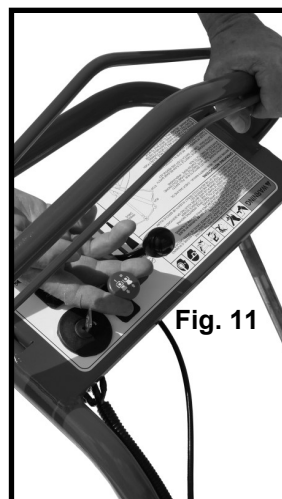

Fig. 11
**Engaging the Mower Blades:** After confirming that the area to mow is free of hazards and bystanders, move the Engine Throttle Control to FAST, pull the Operator Presence Bale back to its engaged position and pull UP on the Mower Blade Engagement Control. (Fig. 11) If the mower blades are engaged, the Operator Presence Bale must be held continuously in the engaged position. If the Operator Presence Bale is released while the mower blades are engaged, the engine will stop running.